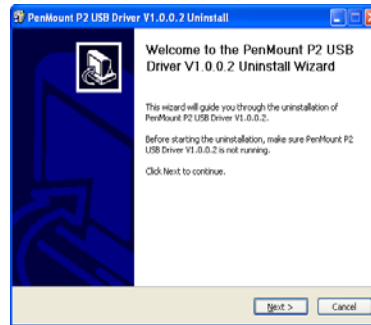
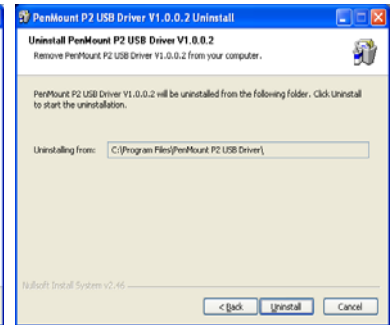

Fig.11
Fig.12
- Select **'Uninstall'** to remove **PenMount Windows Universal Driver**. (Fig.11 & Fig.12)